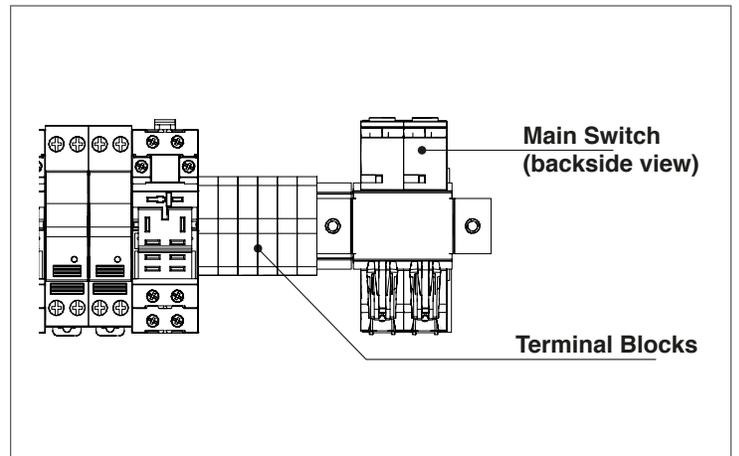
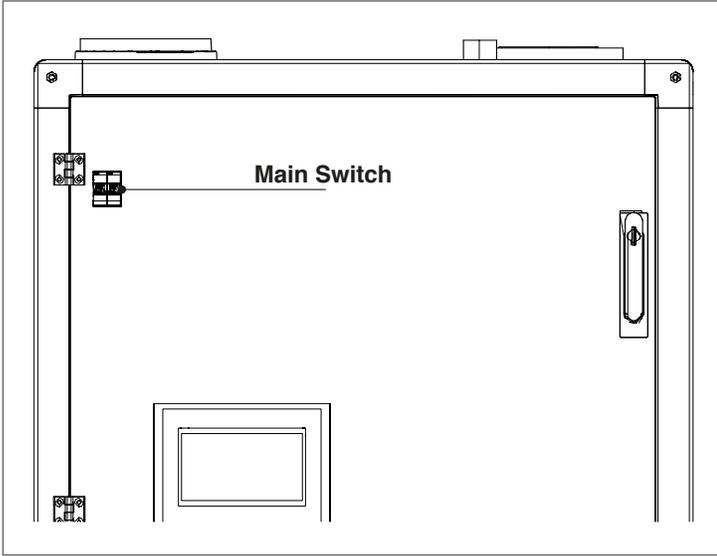

Fig. 26 AR 2000 Front Door Electrical components
Fig. 27 Main switch
**⚠ WARNING:** The main switch shown in Fig. 26 and Fig. 27 does not remove power from the left door terminal blocks.